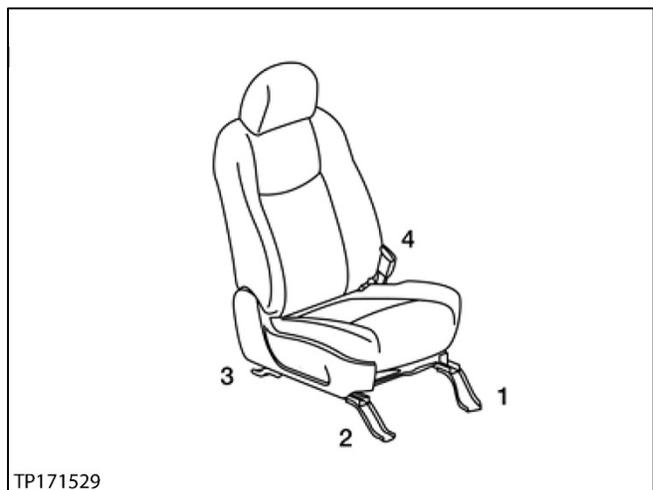

Figure 27
- See Figure 27 for seat-to-floor bolts torque sequence.